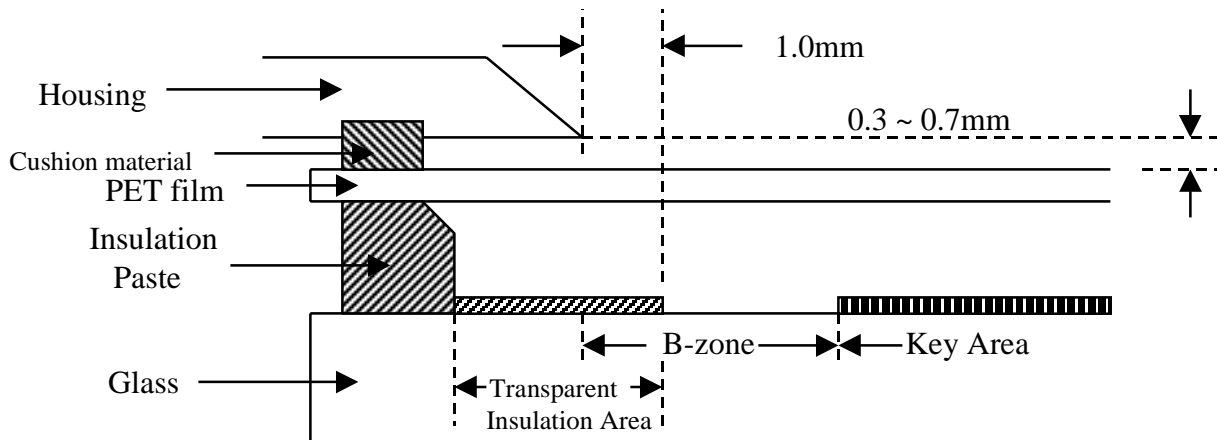

Fig.1
- 2) Design your unit to avoid the potential shorting problem from the bezel housing edge contacting the T/P surface of this area (See Fig. 1). This is commonly known as “False Touches”.
- 2) Consider your housing edge position to keep 1.0mm distance from this paste line. (See Fig. 1)
- 1) Keep the gap, for example 0.3 to 0.7mm between the bezel edge and T/P surface. The reason is to avoid the bezel edge from contacting the T/P surface that may cause a “short” with the bottom layer. (See Fig. 1)